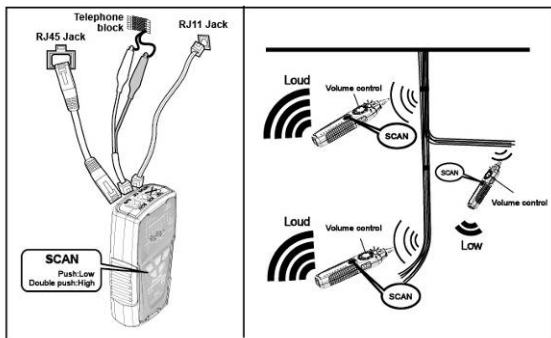

Figure 4 Isolating Cable
3. Different connectors generate different LED and sound indications as shown in Figure 4.